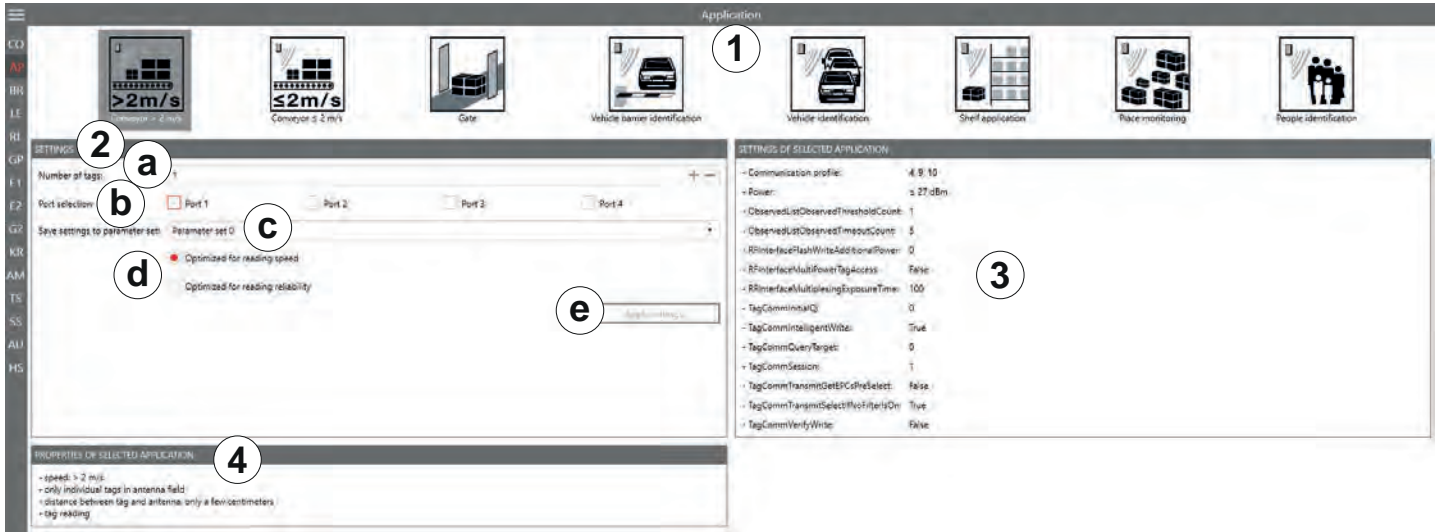
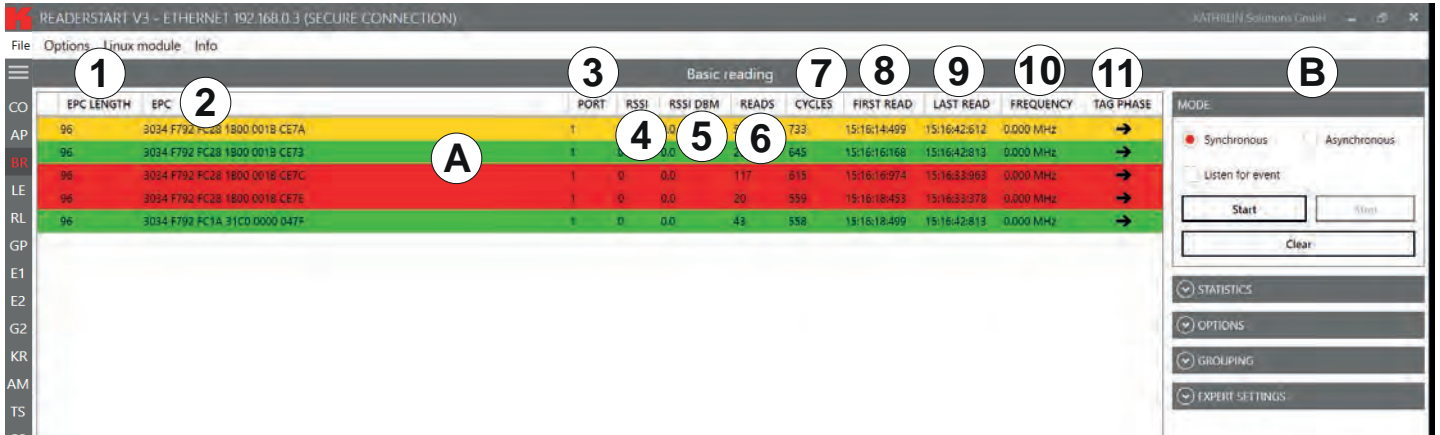

Fig. 51: Application Tab
Fig. 52: Basic reading
- ▶ Click *Start* (④ in Fig. 52) to start the reading.
- ▶ Click *Stop* (⑤) to stop the reading.
- ▶ Click *Clear* (⑥) to remove all tag entries from the table (Ⓐ in Fig. 51)